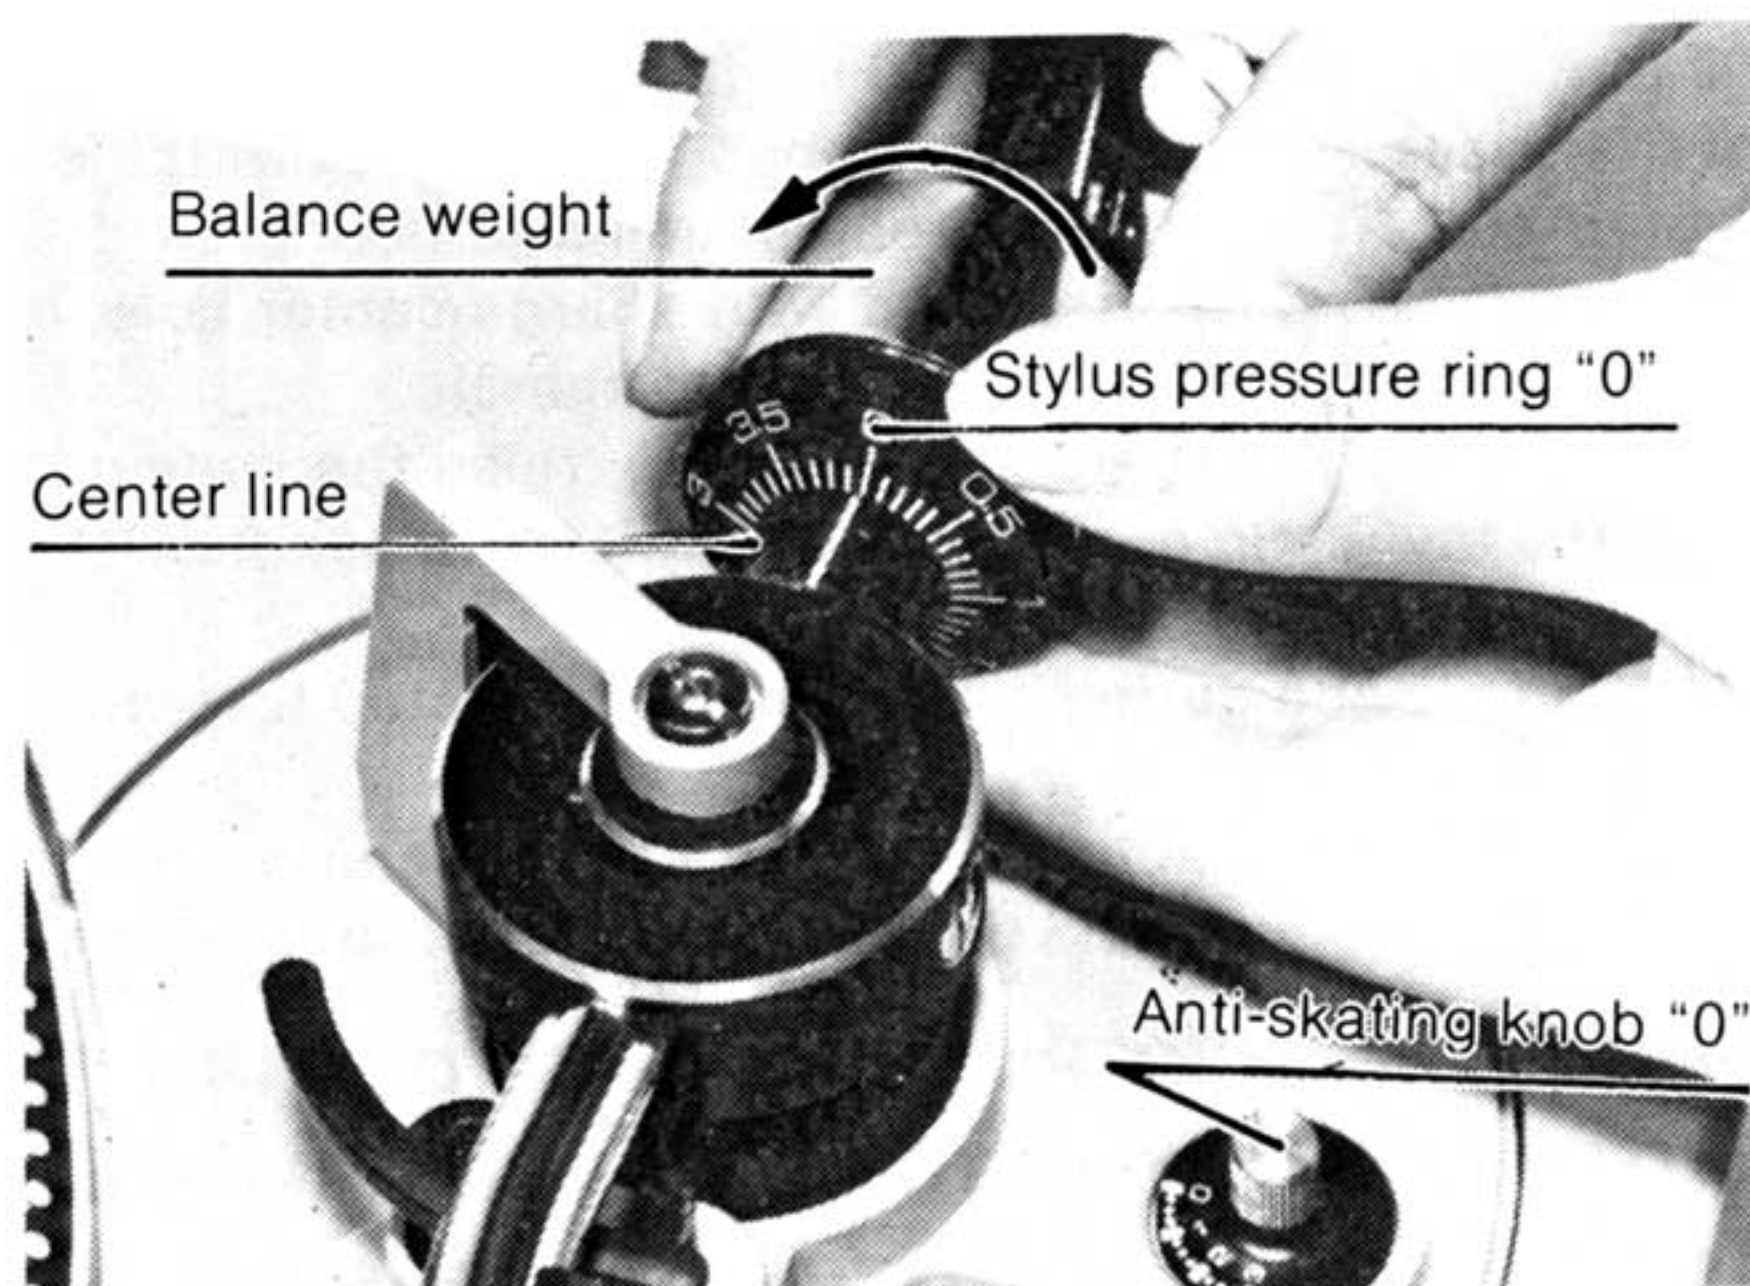

Figure 9. 10
5. After the tonearm is horizontally balanced, temporarily fix the tonearm by the arm clamp. (Refer Fig.9)
Hold the balance weight stationary with fingers as shown in Fig. 9 and rotate only the stylus pressure ring to bring the numeral "0" of the ring into alignment with the center line on the tonearm rear shaft. (The adjustment of the horizontal balance is now completed.)
- 2) Ensure that the anti-skating knob is at "0" position. (See Fig. 9)